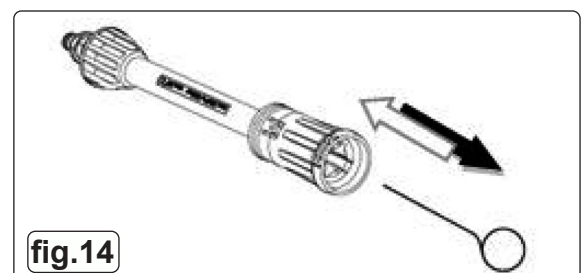

fig.14
7.2. CLEANING THE NOZZLE FIG.14